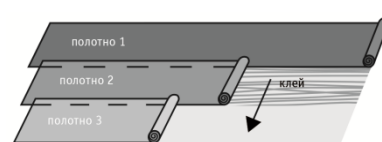

Figure 4
9.3 Now unroll a TARKETT PVC floor covering sheet upper side out on the foundation treated with adhesive. Start unfolding sheets on the glued foundation from the first sheet (see Fig. 4).